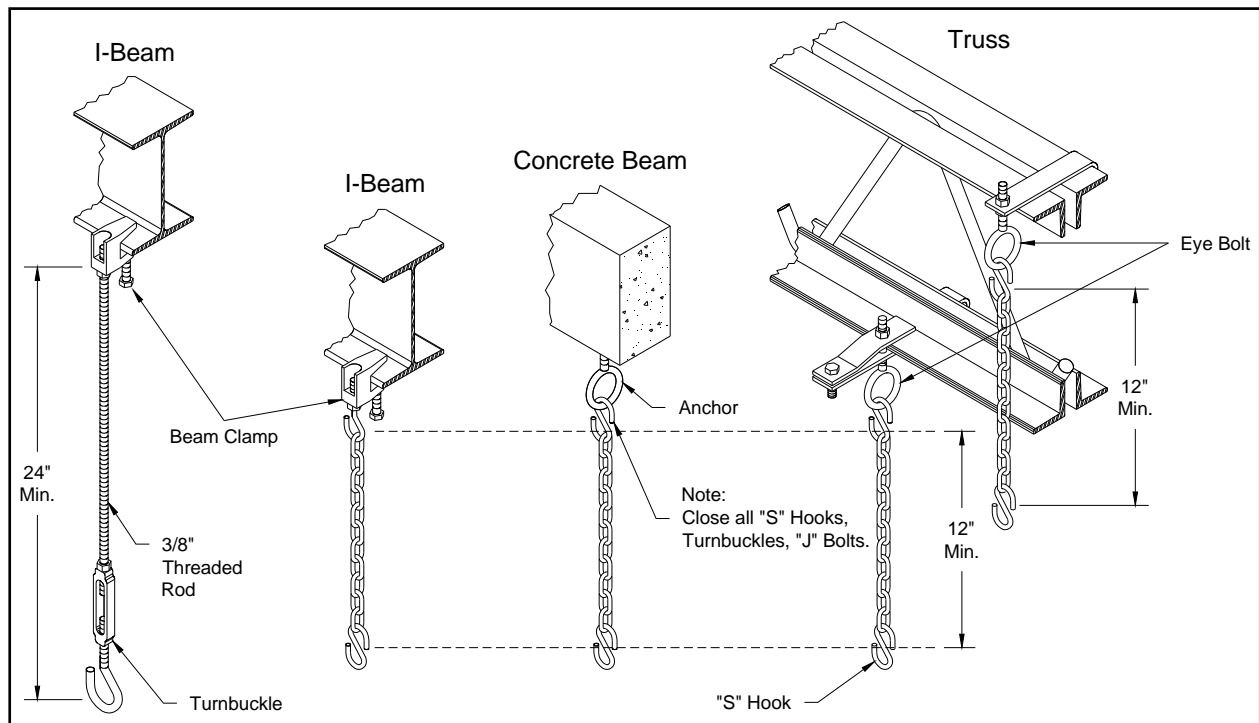
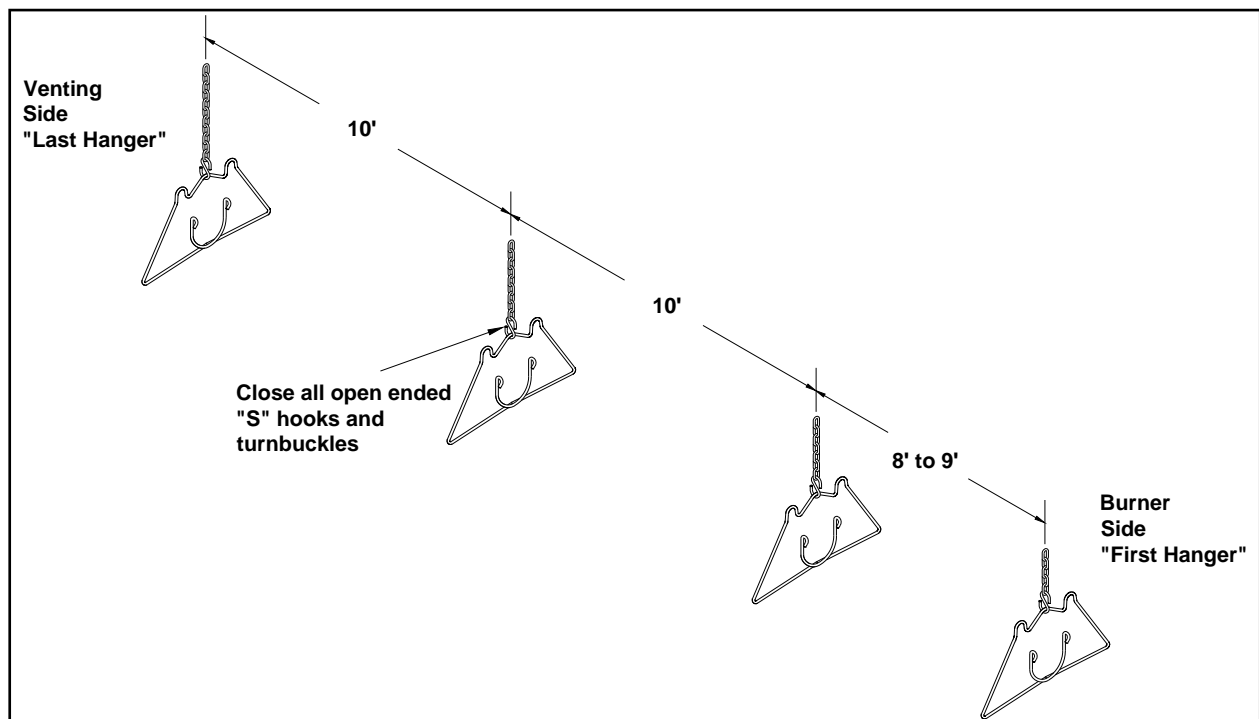

Figure 5: Suspension Mechanism
Figure 6: Hanging Points
- Suspension mechanism must allow for lateral tubing expansion. A minimum 12" length welded link chain with a working load limit of at least 200 lbs. is recommended. (Figure 5). **Close all open ended S hooks and turnbuckles to avoid unhooking chain with inadvertent contact.**
- Locate hanging chain at predetermined suspension points in the structure. **It is required that the first 2 hangers** be about 8' to 9' apart. Thereafter, 10' apart on average is acceptable for the remainder of the heat exchanger. At no time should hangers be more than 12' apart, (Figure 6).
- Install the tube and reflector support hanger on the chain with “S-hooks” (Figure 5 & Figure 6).